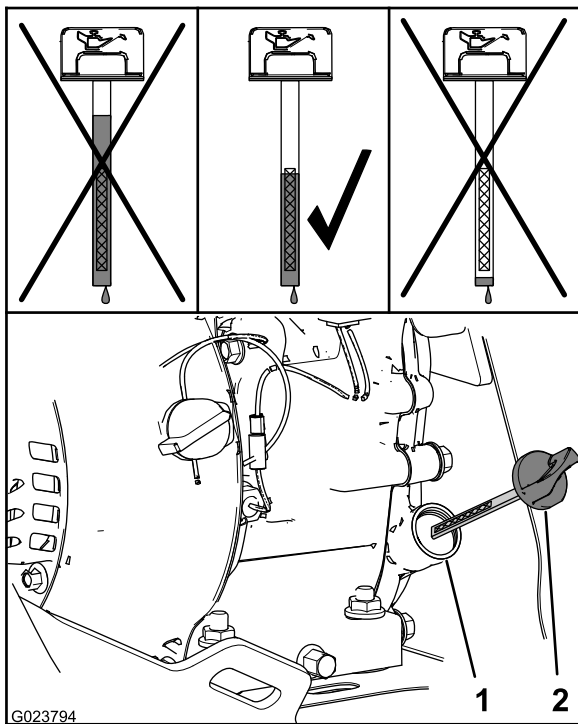

Figure 24
2. Remove the dipstick and read the oil level (Figure 24).
Note: The oil level should be at top of the indicator on the dipstick (Figure 24).
- A. Pour the specified oil into the filler neck (Figure 24).